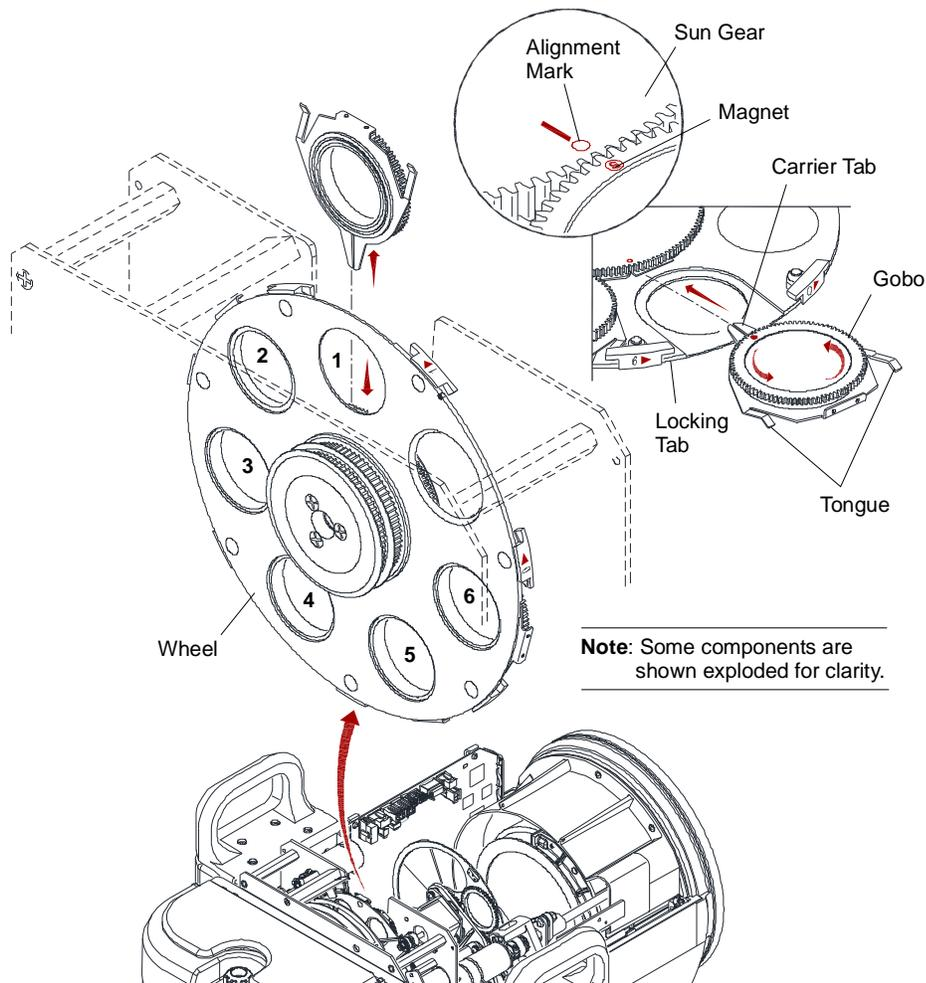

Figure 4-8: Replacing a Gobo (Wheel 1)
Step 3. Using fingers, grasp frame of each gobo and pull out of wheel (**Figure 4-8**). Remove ALL gobos.
- Align gobo's magnet with alignment mark on sun gear as shown in **Figure 4-8**.